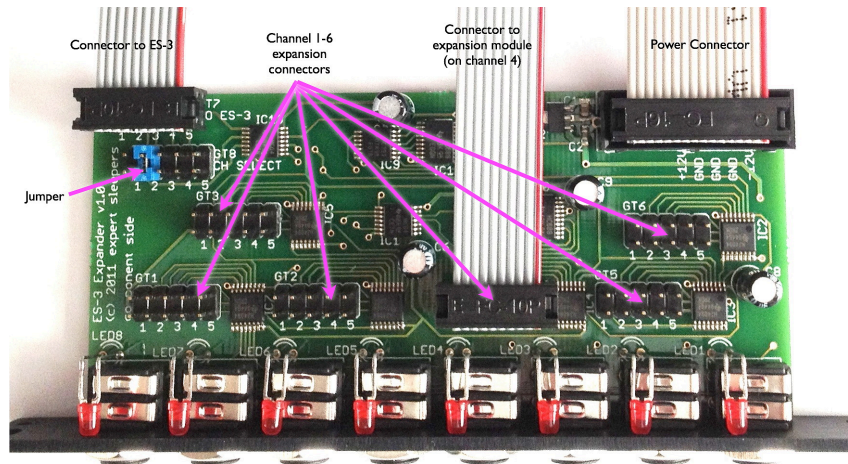

Figure 1: ES-5 PCB
- Connect the power cable so "-12V" (printed on the PCB) corresponds to the red stripe on the cable (see Fig.1).
2. Attach the power connector so "-12V" (printed on the PCB) corresponds to the red stripe on the power connector (see Fig.1).
3. Connect the ES-5, with the supplied 10-way cable, to the header on your units PCB (see Fig. 1 and Fig. 2).
7. Attach the ES-5 power connector so "-12V" (printed on the PCB) corresponds to the red stripe on the power connector (see Fig.1).
9. Connect the ES-5, with the modded 10-way cable, to the "Connector to ES-3" header on your units PCB (see Fig. 1).